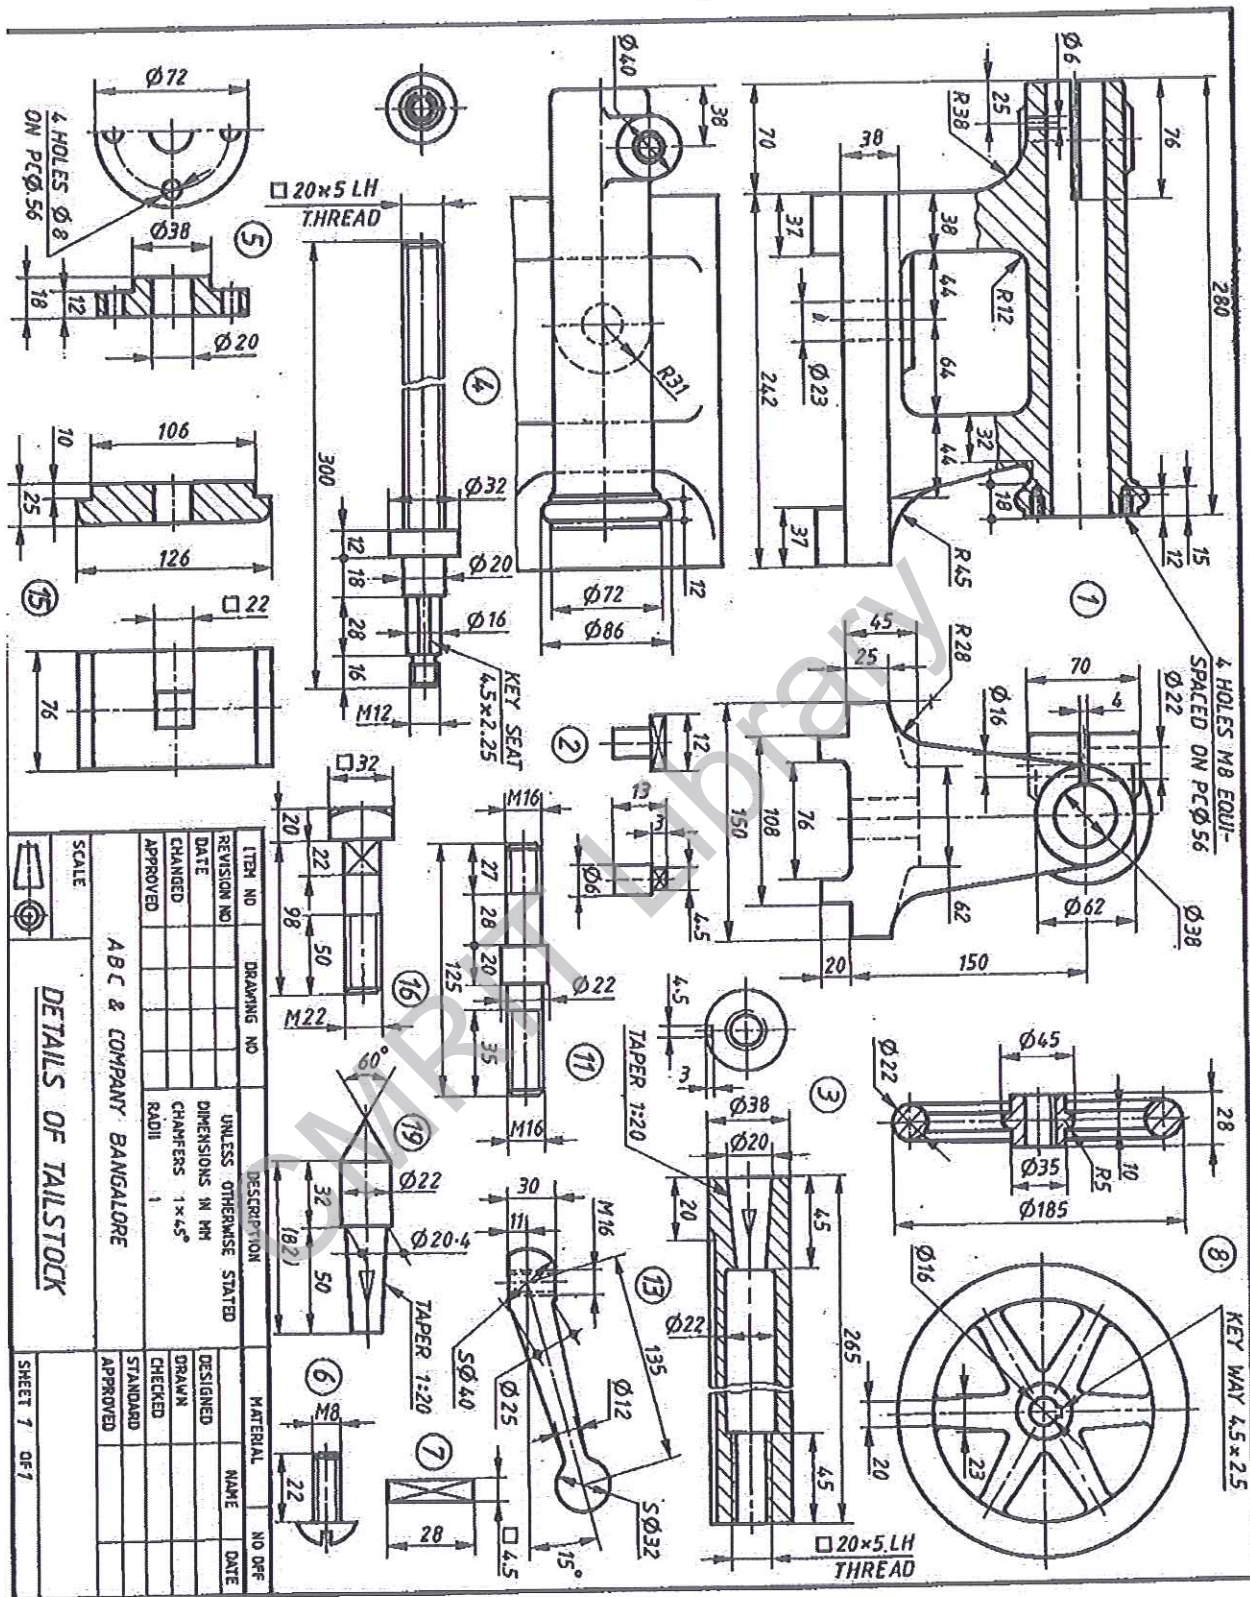

Figure 2. "TAIL - STOCK"
- Q.No.6** Figure 2 shows the details of a “TAIL – STOCK” of a lathe. Assemble the parts and draw.